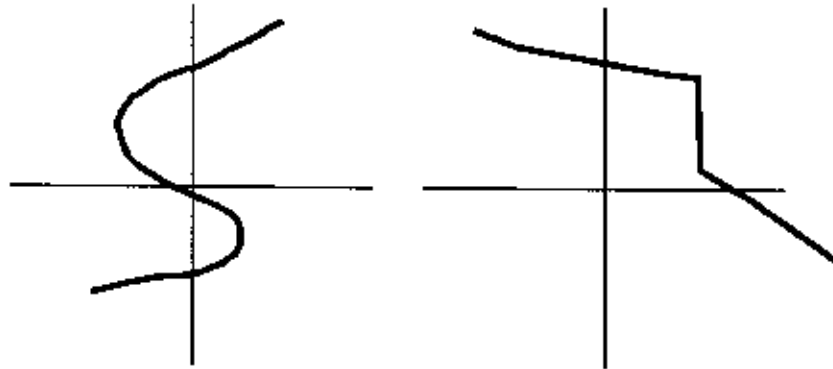

Figure A4. "Illegal" Function Curves
- For each input value, there can be only one output value. Figure A4 gives two examples of "illegal" functions that cannot be modified to work with the SCM.